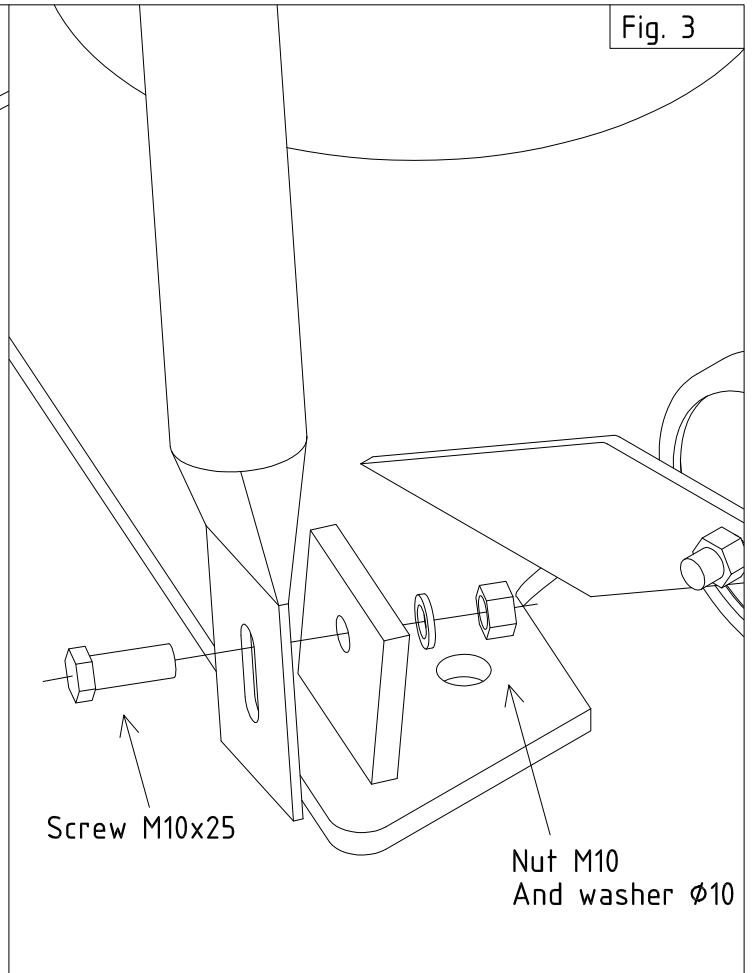

Fig. 4
- Fix sliding post to the base (Fig. 4)